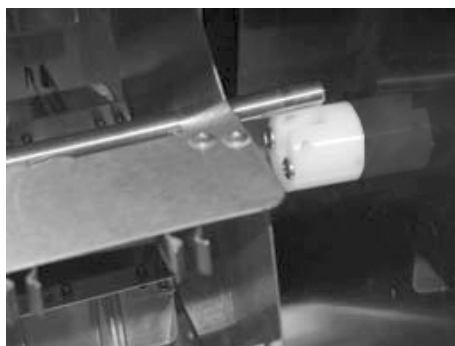

Figure 4 Inserting the rotator shaft into the rotator shaft support bushing.
- d While you hold the rotator to keep the drive coupling attached, lower the rotator shaft into the slot in the rotator shaft support bushing. See Figure 4.